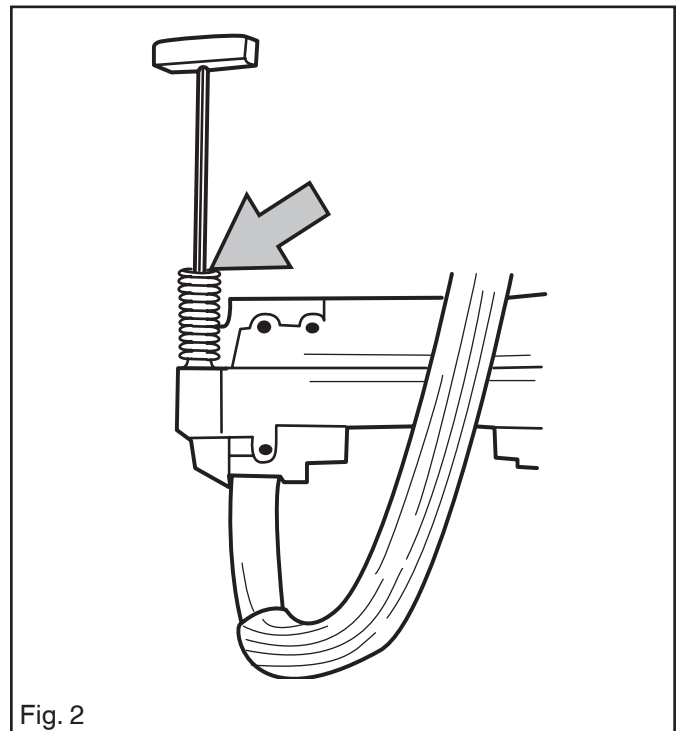

Fig. 2
3. Remove the springs on the tank unit with a 4 mm Allen key. See fig. 2.